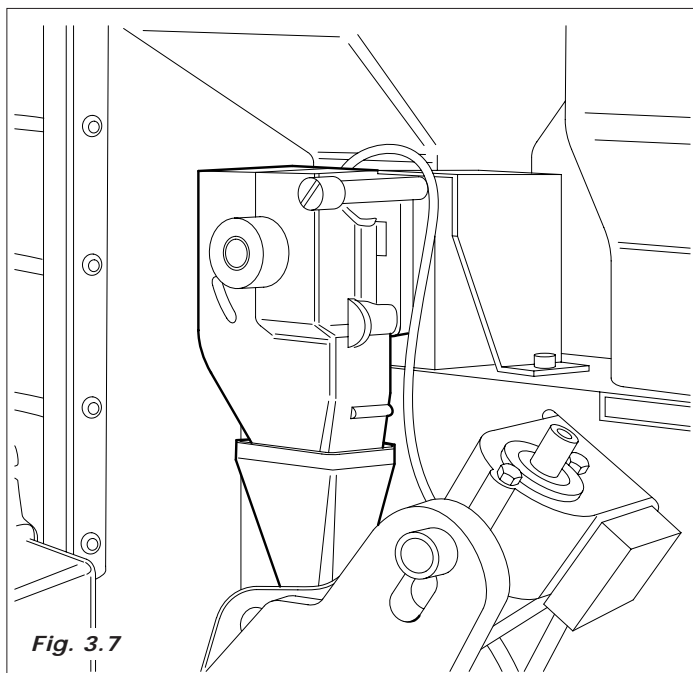

Fig. 3.7
- the grinder is activated until it reaches the dose of ground coffee set by the doser (Fig. 3.7)